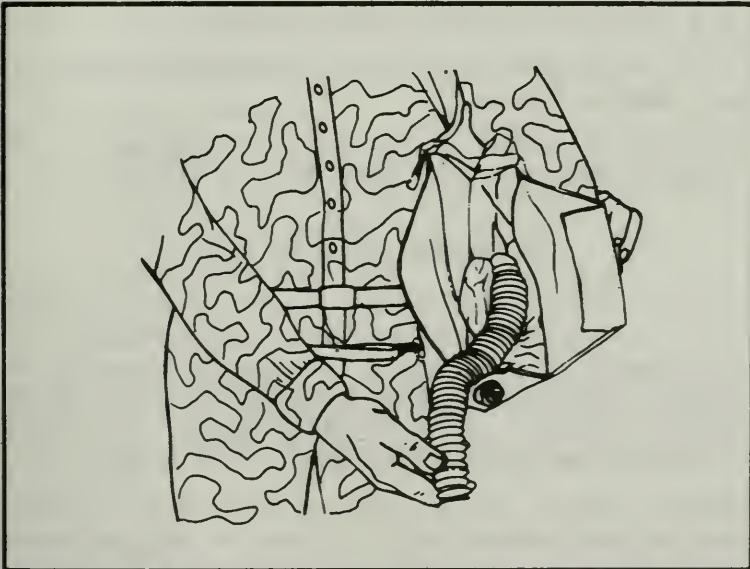

Figure 316. Stowing protective mask.
i. Ensure that the hose is pointing toward the opening (Figure 316).